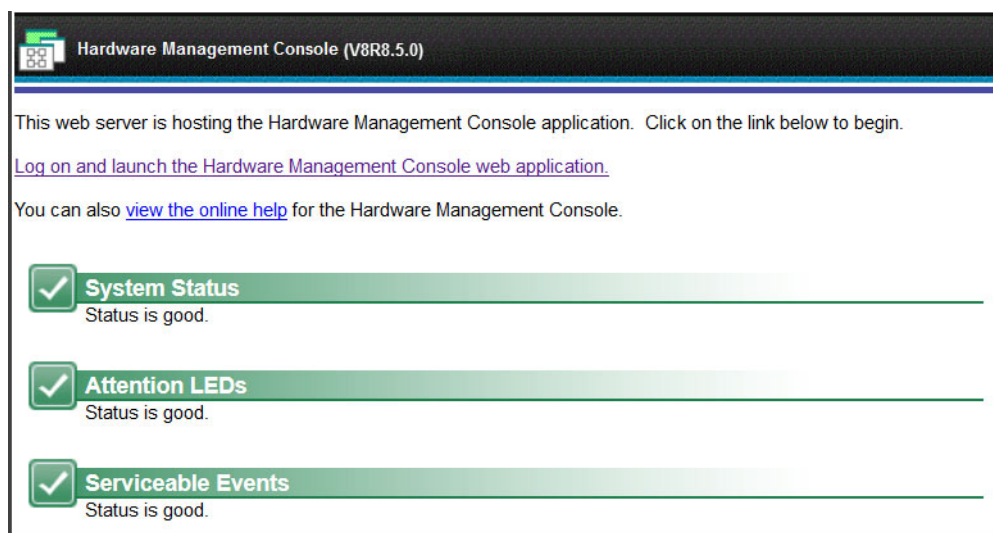

Figure 8-7 Service Management Console application
2. Click **Log on and launch the Hardware Management Console web application** to open the login window as shown in Figure 8-7 and log in. The default user ID is customer and the default password is cust0mer.